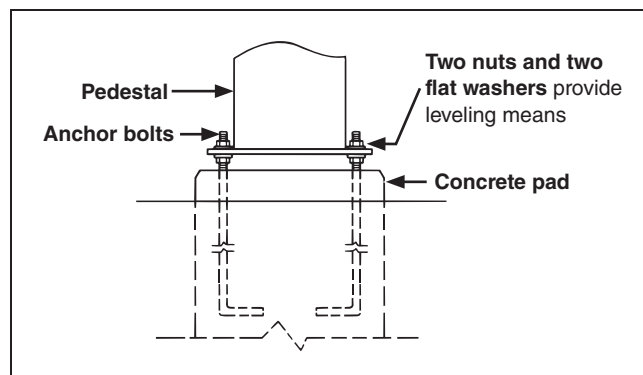

Figure 3. Pedestal anchor-bolt mounting detail.
- STEP 1.** Install the lower set of anchor-bolt nuts and flat washers onto the pre-installed anchor bolts. Level all anchor bolts to the same height, leaving space below and above the bolt for leveling. See Figure 3.
- STEP 4.** Lower the pedestal onto the anchor-bolt nuts and flat washers. Loosely secure a flat washer and nut to each anchor bolt. See Figure 3. Remove the lifting slings and eyebolts.
- STEP 5.** Adjust the lower set of anchor-bolt nuts to plumb and level the pedestal. The upper set of anchor-bolt nuts should remain loosely attached. See Figure 3.
Lubricate the bolts to facilitate tightening. Use a level to verify the high-speed base is horizontal, both lengthwise and sideways. Adjust the lower set of anchor-bolt nuts at the pedestals to achieve level. See Figure 3 on page 11.